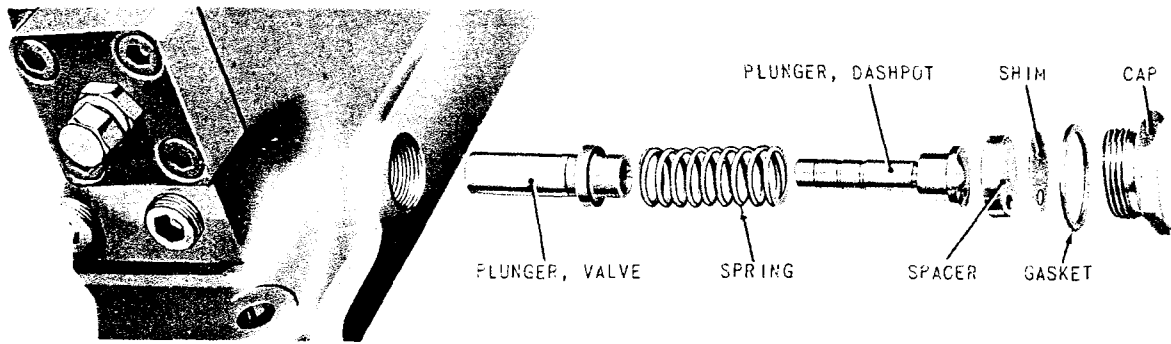

Figure 7. Gear Pump Relief Valve, Assembly, Exploded View
G. GEAR PUMP RELIEF VALVE. (See Fig. 7 and Section "G-G" in Fig. 13.)
1. REMOVAL. Relief valve can be removed without draining system or removing pump from reservoir. Unscrew cap (55), gasket (54), and remove shims (53), spacers (49), dashpot plunger (51), spring (52), and valve plunger (50).